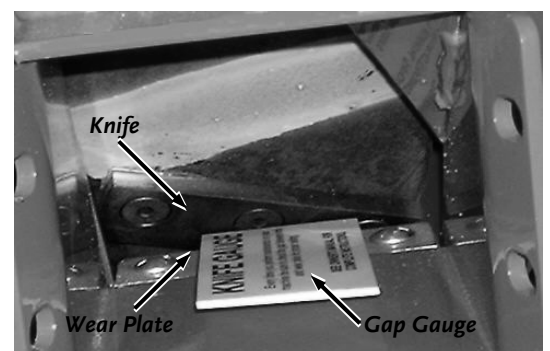

Figure 25
- Using a stick, rotate the Chipper Disk until the Knife is opposite the Wear Plate (**Figure 25**).